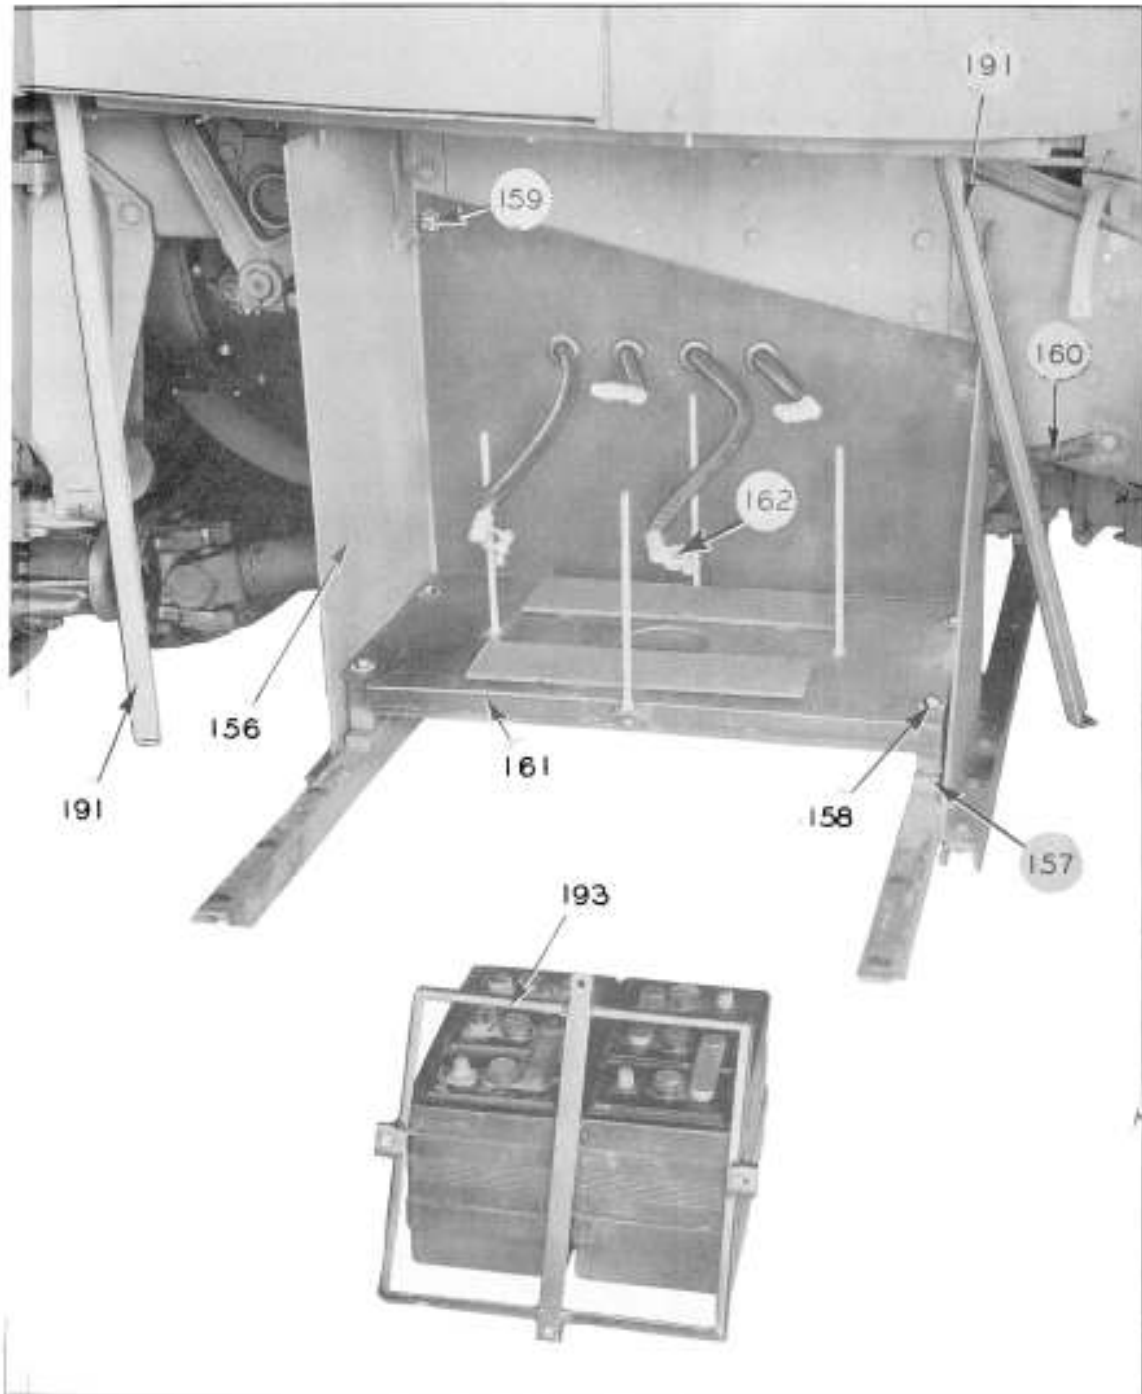

FIGURE 18
2. Delete "Figures 18 and 21", pages 46 and 49, and replace with Figures 18 and 21 shown hereon.
Note: This figure replaces Fig. 18 on page 46 of this pamphlet